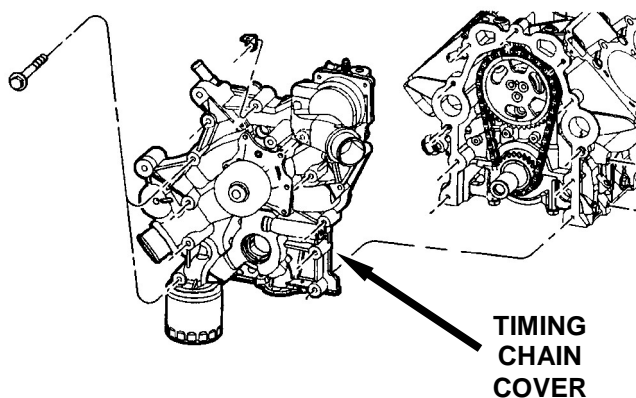

Figure 7
39. Remove the timing chain cover bolts (Figure 7).
40. Remove the timing chain cover (Figure 7).
46. Snug the three (3) camshaft sprocket bolts to 50 in-lbs (6 N·m) to ensure hard contact of the joint faces.
48. Install the timing chain cover onto the location dowels without the front crankshaft seal installed (Figure 7).